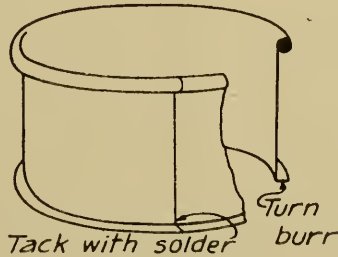

FIG. 4.
9. Turn $\frac{1}{8}$ " burr on bottom and tack seam with solder near bottom to keep seam from slipping apart. (Fig. 4.)